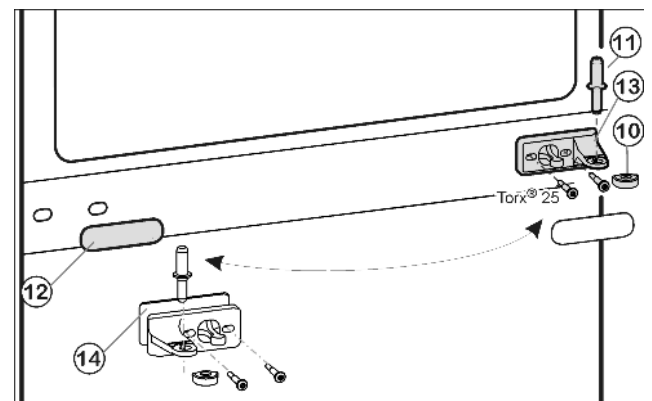
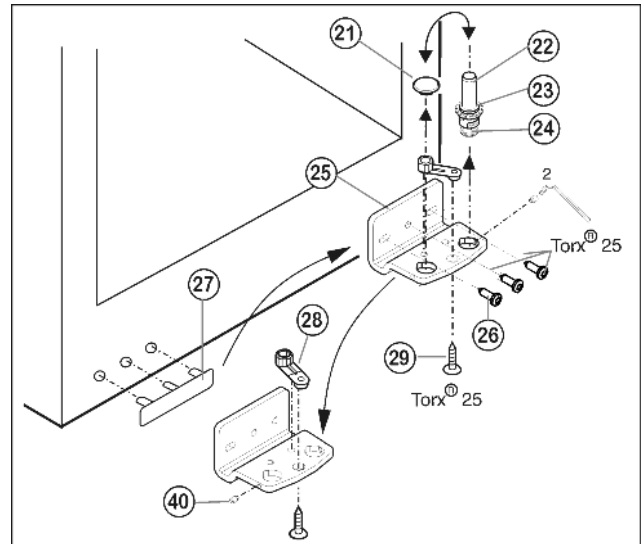

Fig. 5
Fig. 7
- ▶ Draw the middle bearing pin Fig. 5 (11) out of the turn hinge and lower door.
- ▶ Remove the plastic cap Fig. 5 (10).
- ▶ Unscrew the middle turn hinge (2x Torx® 25). Fig. 5 (13)
- ▶ Carefully detach the cover panel Fig. 5 (12).
- ▶ Turn the middle turn hinge Fig. 5 (13) with the washer Fig. 5 (14) through 180° and screw it firmly into place on the new hinge side (with 4 Nm).
- ▶ Turn the cover panel *Fig. 5 (12)* through 180° and snap it into place again on the new handle side.
- ▶ Using the accompanying Allen key, unscrew the threaded pin *Fig. 7 (40)* by about 1 turn.
- ▶ Turn and lift out the bearing pin *Fig. 7 (22)* together with the washer *Fig. 7 (23)* and adjustable-height foot *Fig. 7 (24)*.
- ▶ Lift out the stopper *Fig. 7 (21)*.
- ▶ Unscrew *Fig. 7 (26)* the turn hinge *Fig. 7 (25)*.
- ▶ Fully unscrew the threaded pin *Fig. 7 (40)* and screw it in on the opposite side, at the turn hinge, until it is flush outside with the turn hinge.
- ▶ Unscrew *Fig. 7 (29)* the bearing element *Fig. 7 (28)*, transfer it to the opposite location hole of the turn hinge and screw it firmly into place.
- ▶ Re-insert the stopper *Fig. 7 (21)* into the other hole.
- ▶ Carefully lift off the cover on the handle side *Fig. 7 (27)* and transfer it to the opposite side.
- ▶ Screw the turn hinge *Fig. 7 (25)* firmly into place on the new hinge side, possibly using a cordless screwdriver (with 4 Nm).
- ▶ Screw the bearing pin *Fig. 7 (22)* into place again, complete with washer and adjustable-height foot.
- ▶ Tighten the threaded pin *Fig. 7 (40)*.
- ▶ Place the lower door from above onto the lower bearing pin *Fig. 7 (22)*.
- ▶ Place the plastic cap *Fig. 5 (10)* back onto the middle turn hinge *Fig. 5 (13)*.
- ▶ Place the middle bearing pin *Fig. 5 (11)* in the lower door, on the new hinge side, through the middle turn hinge *Fig. 5 (13)*.
- ▶ Place the upper door on the middle bearing pin *Fig. 5 (11)*.
- ▶ If necessary, align the doors to the appliance housing by way of the two oblong holes in the bottom turn hinge *Fig. 7 (25)* and middle turn hinge *Fig. 5 (13)*. To do so, unscrew the middle screw in the bottom turn hinge *Fig. 7 (25)*.